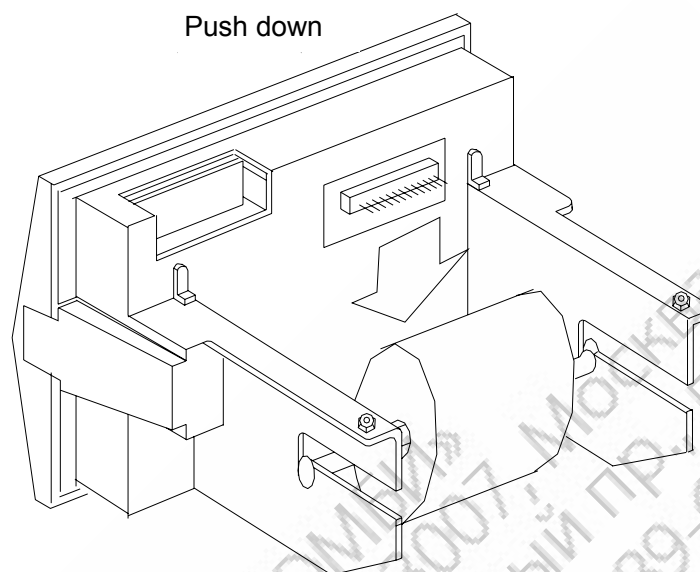

Fig. 8-4
4) Put the new scroll on the spindle. And press the scroll spindle into the groove of the printer as in Fig. 8-4. Make sure the scroll spindle is installed firmly.